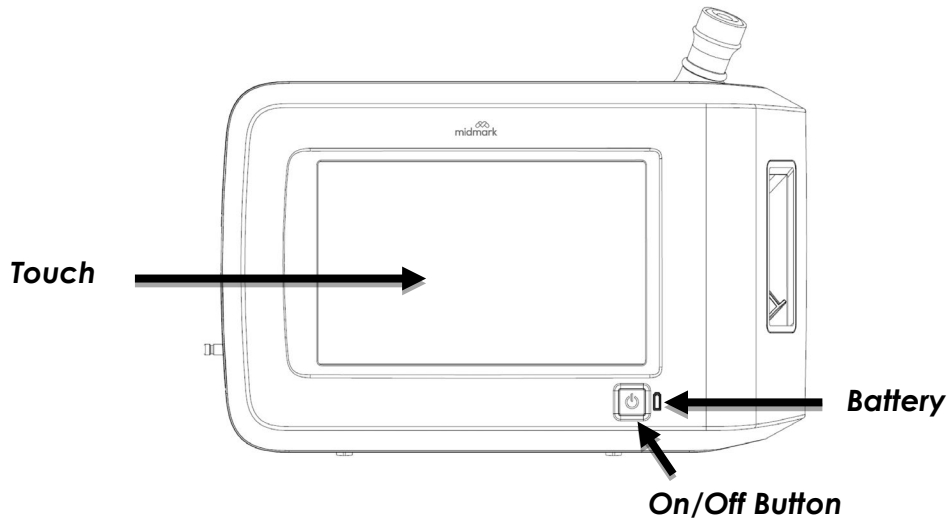

Figure 4
1. To start the Midmark Digital Vital Signs Device press the On/Off button located on the front of the device just below the touchscreen (see **Figure 4** below).